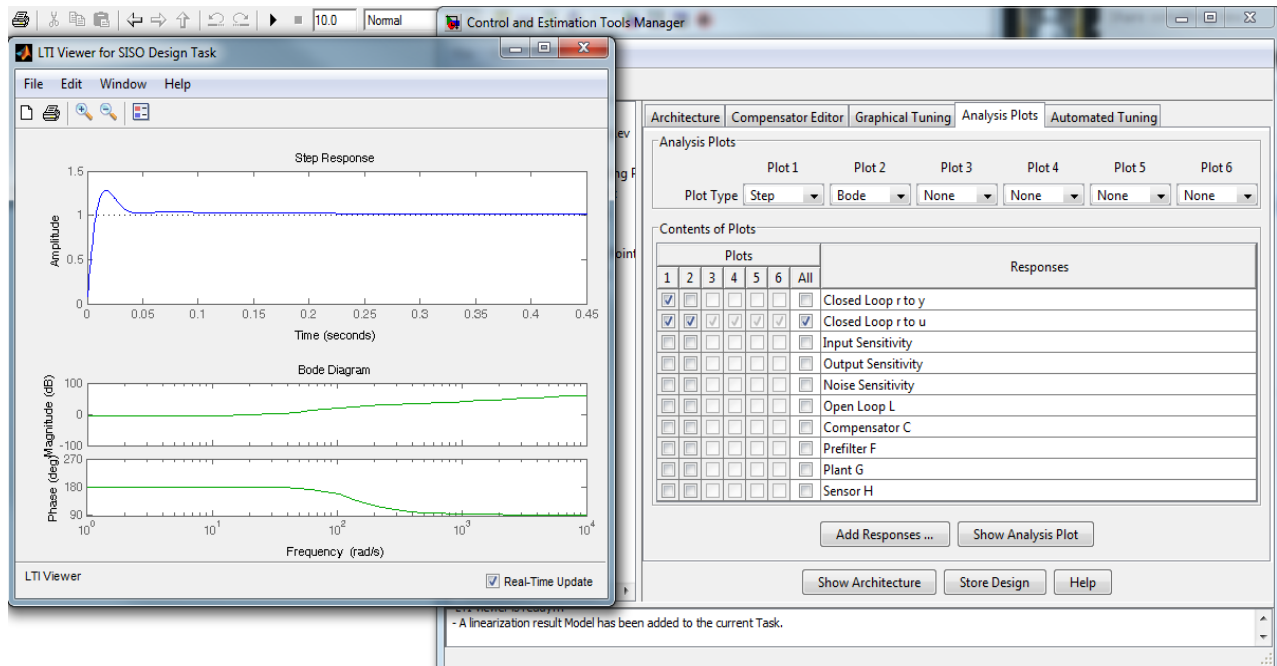

Figure 5 Analysis Plots
7. Analyze the effects of the designed controller using the Analysis Plots tab (Figure 5).